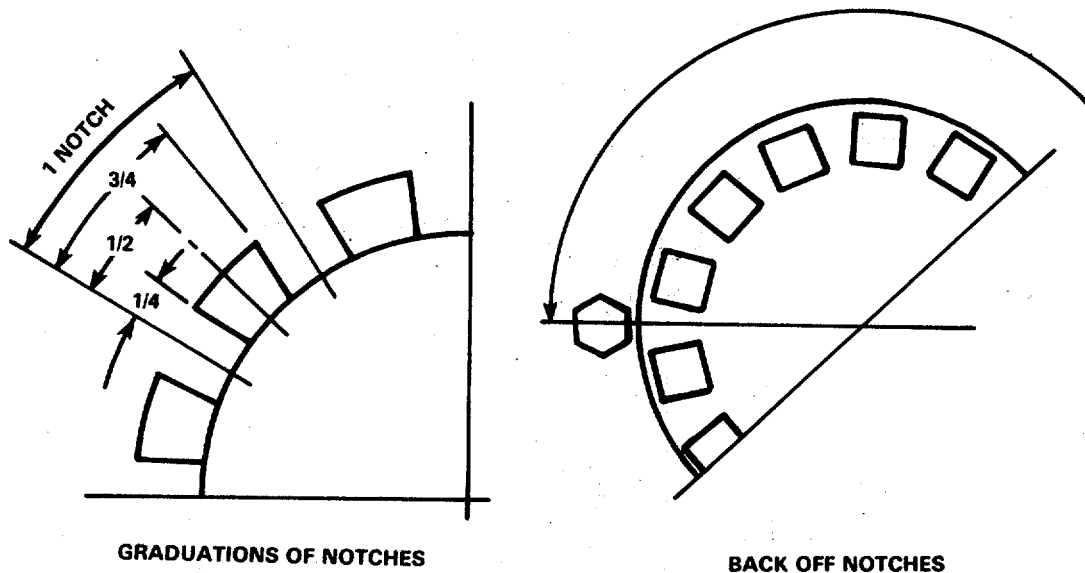

FIGURE 3-57. Adjusting Retainer Nut.
- (b) Back off the retainer nut 3-1/4 - 4-1/4 notches. See FIGURE 3-57.
- (2) Dial indicate the end play as follows: